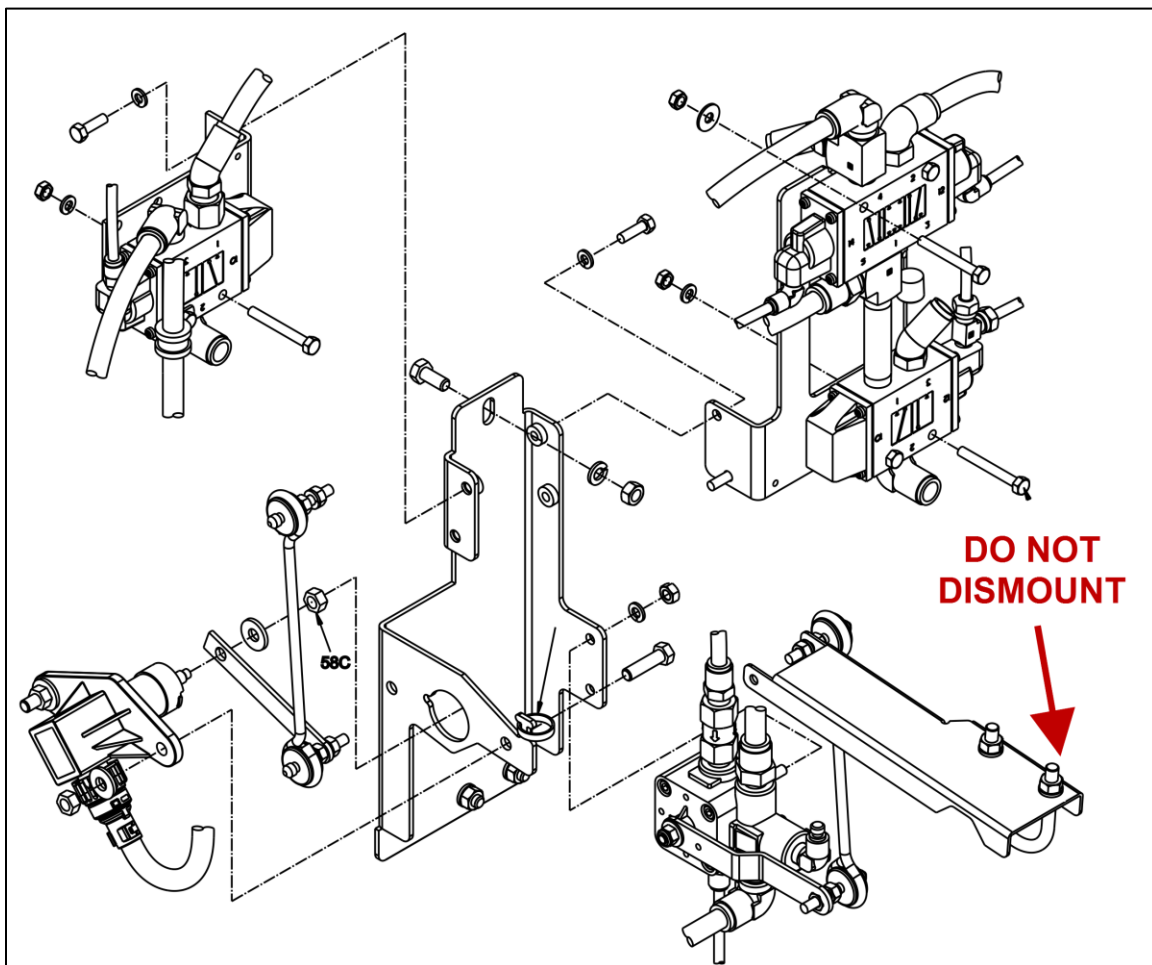

FIGURE 38
79. Dismount all the components shown in FIGURE 38. Do not dismantle the collar on the sway bar. Do not disconnect the piping and the tubing.